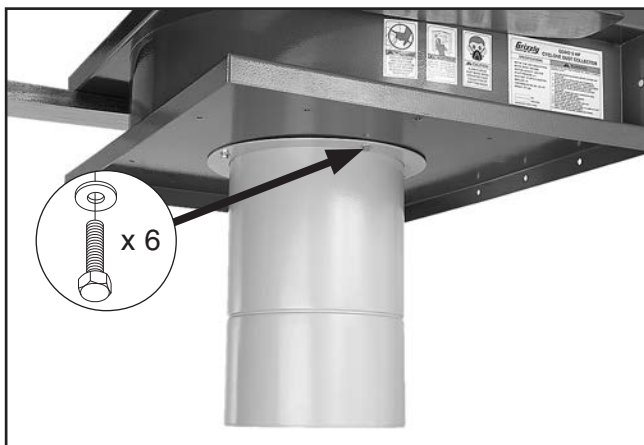

Figure 13. Intake cylinder mounted to blower housing.
- Secure intake cylinder to bottom of blower housing with (6) $\frac{5}{16}$ "-18 x $\frac{3}{4}$ " hex bolts and $\frac{5}{16}$ " flat washers to (see **Figure 13**).